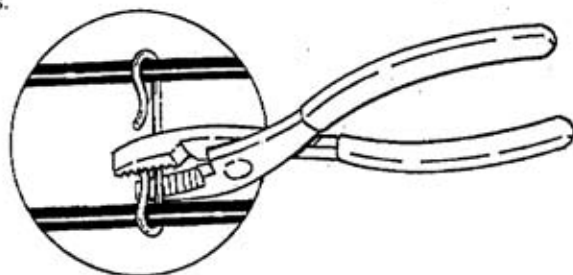

Figure 18. Squeezing spacers with pliers
- While the cable is being laid in the gutter, the spacers can be tightened with fingers or pliers. If you use pliers, squeeze gently and use care to avoid pinching, crimping, cutting into or otherwise damaging the cable (see Figure 18). Do not use a hammer to tighten the clips and spacers.
Once you know the length of cable needed, the next step is to install spacers and feed the cable into the downspout. Spacers must be attached to the cable every 6 inches so that the cable does not touch itself in the downspout. You must tighten the spacers before the cable is installed in the downspout. You may do this with your fingers or pliers. If you use pliers, squeeze gently and use care to avoid pinching, crimping, cutting into or otherwise damaging the cable (see Figure 18). Do not hammer to tighten the clips and spacers. Pull the cable into the downspout using a weighted string.
Tighten clips and cable spacers. Tighten clips and spacers on the roof. You may do this with your fingers or with pliers. If you use pliers, squeeze gently and use care to avoid pinching, crimping, cutting into, or otherwise damaging the cable (see Figure 18). Do not use a hammer to tighten the clips and spacers.